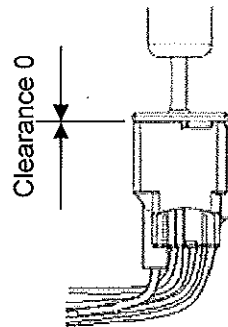

Fig. 4
6. Confirm the gauge can be fully inserted with a force equivalent to the weight of the gauge itself. (See Fig. 4)